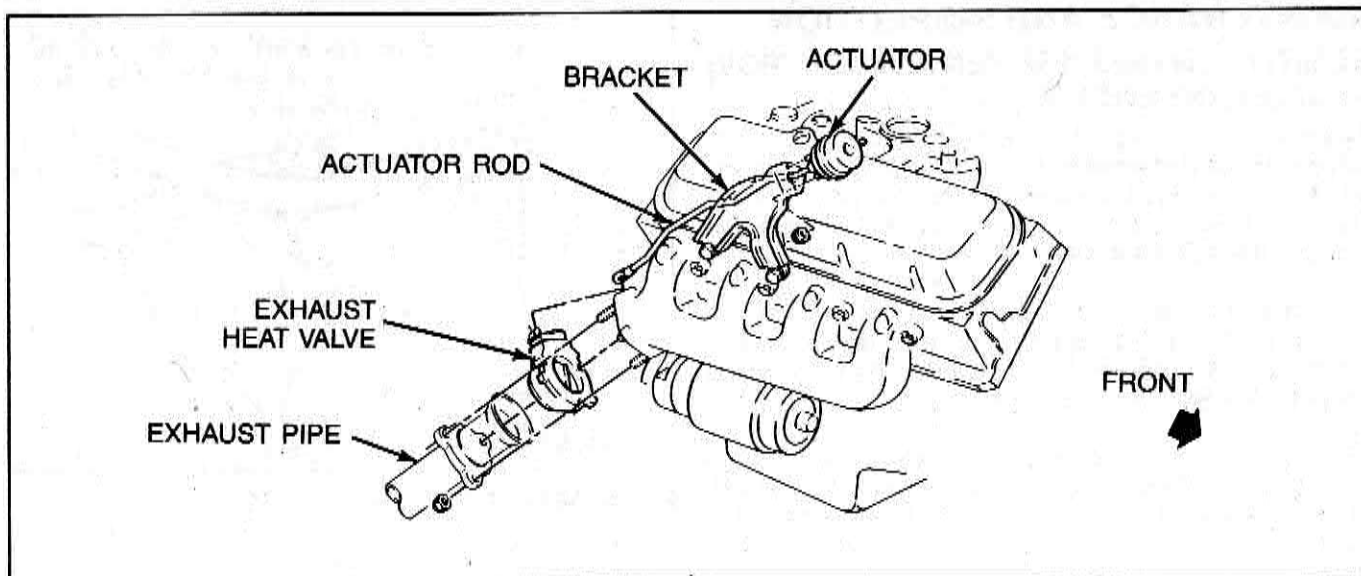

Figure 7-65 — Exhaust Heat Valve — EFE System
- Visually inspect the exhaust heat valve (Figure 7-65) for damage or binding linkage.